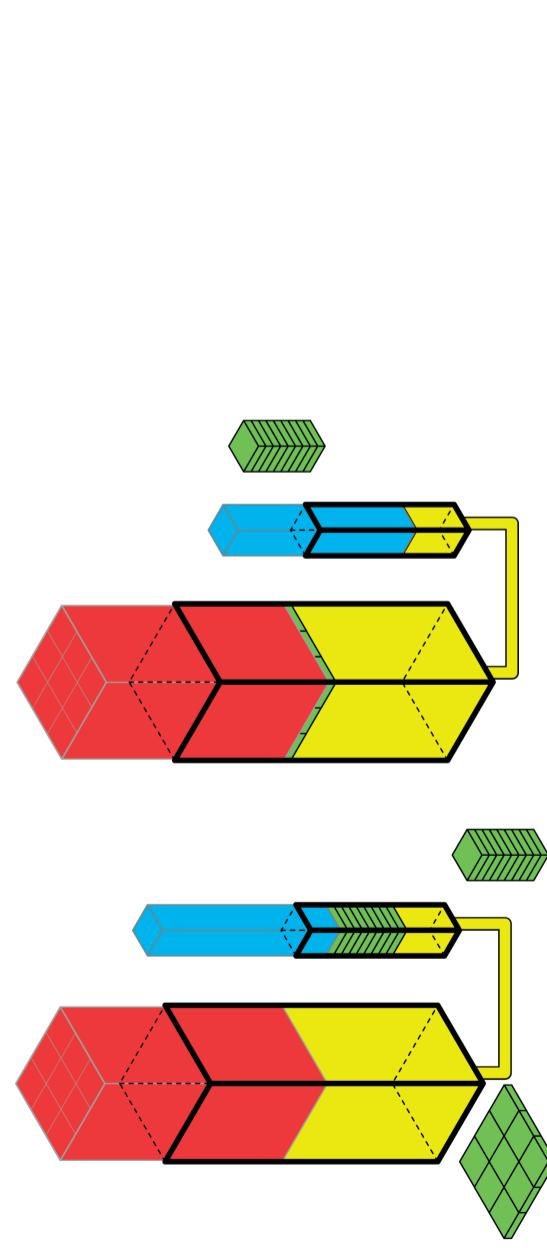

Figure 13 LB page 73
The diagram in Figure 13 on Learner Book page 72, may help learners to grasp the above ideas.
2. In the system shown in Figure 13, the surface area of the output cylinder top is nine times the surface area of the input cylinder top.